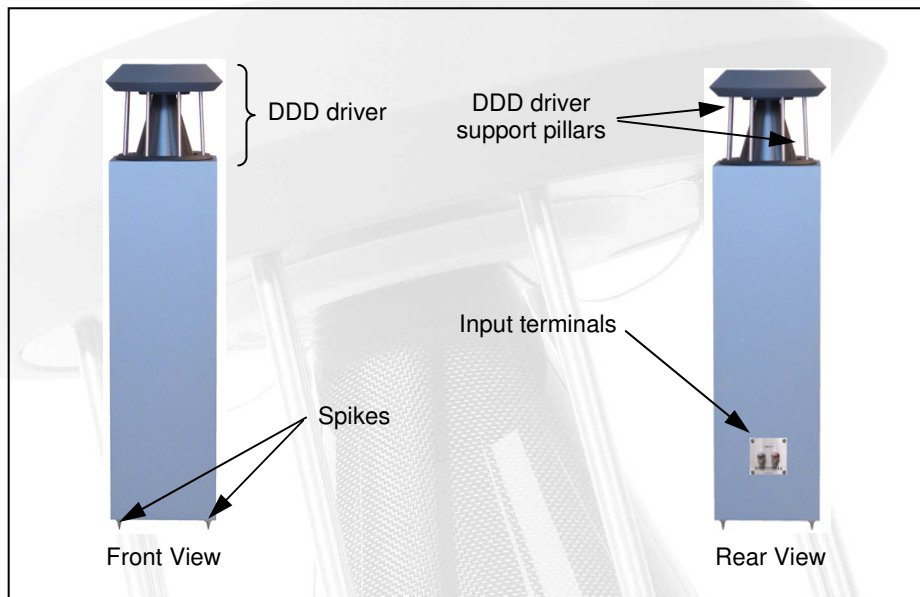

Figure 4. Principle Features of the Limited 11
Do not lift the loudspeakers by the DDD driver support pillars (figure 4) as this may damage the driver.
4. Lift the loudspeaker out of the box by supporting it under the sides of the cabinet and stand it on its spikes. Do not lift by the DDD driver – see figure 4. When lifting the loudspeaker from the vertical is necessary to place one hand under the base of the loudspeaker. To avoid damaging the woofer, ensure that you only support the base of the loudspeaker by the underside of the cabinet - see figure 3.
The input terminals are located on a panel on the back of the cabinet (figure 4). These can accept spade terminals, banana (5mm) plugs or bare cable.